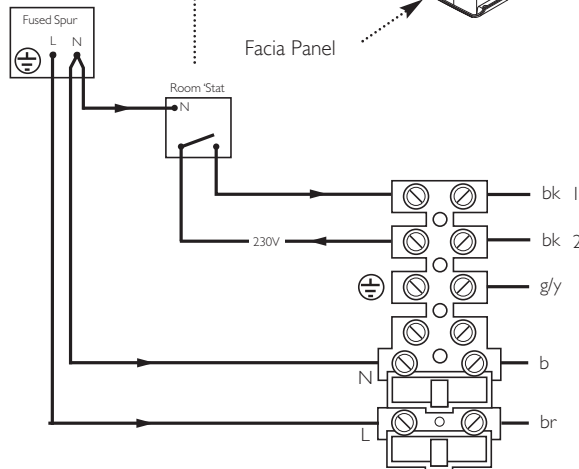

Fig. 32
- Remove the link between terminals 1 & 2. The 230V supply at terminal 2 must be connected to the thermostat. The switched output from the thermostat must be connected to terminal 1. (Figs. 32 & 33). If the room thermostat being used incorporates an anticipator it **MUST** be wired as shown in Figs. 32 & 33.